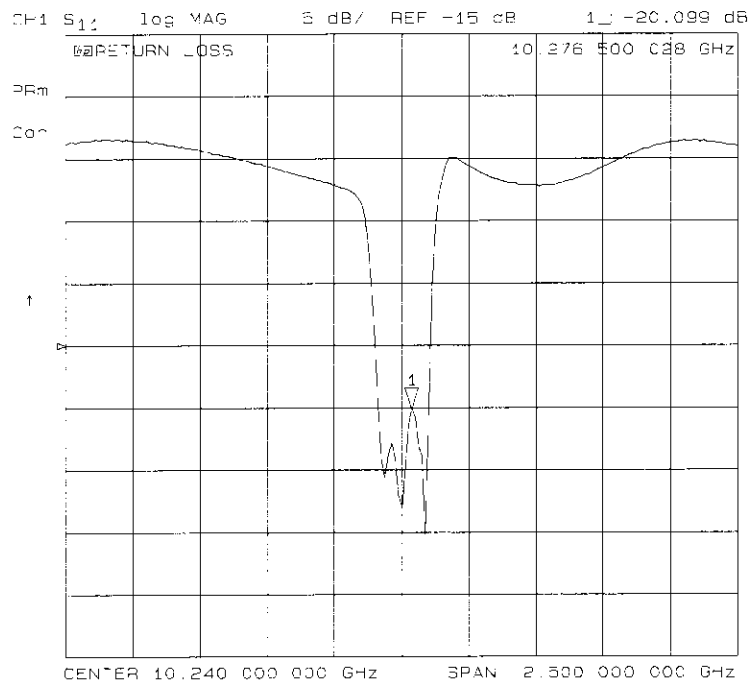

Figure 2-11. Example Measurement Title
2. Press **[Display]** **MORE** **TITLE** and then create a title for the measurement, as shown in Figure 2-11: